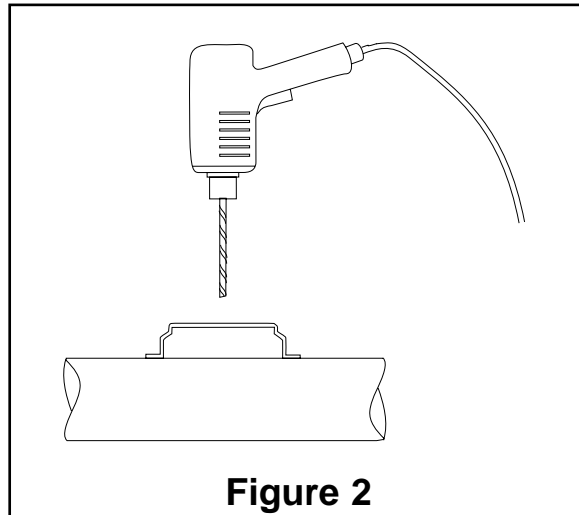

Figure 2
4. Cut out circle "B" on template and place onto lower spring seats with a dab of grease to hold in position. Center punch and drill a 3/4" hole. Remove all burrs and sharp edges (Figure 2).